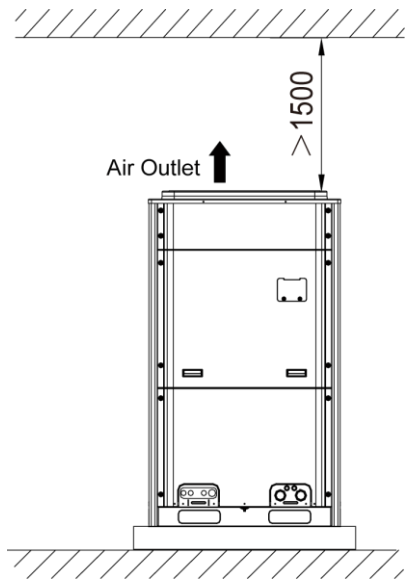
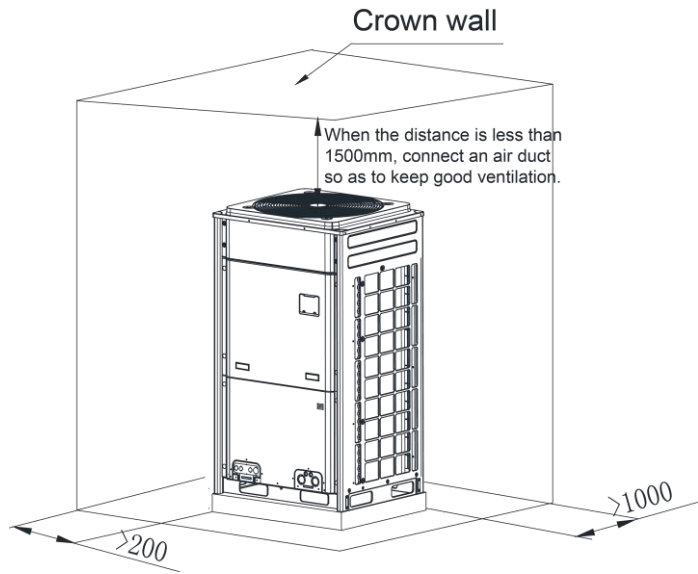

Fig.3.2.5
Fig.3.2.6
3.2.2 When there is wall (or similar obstruction) above the unit, keep the distance between the unit top and the wall at least 3000mm or above. When the unit is located in an open space with no obstruction from front, back, left and right, keep the distance between the unit top and wall at least 1500mm or above (See Fig.3.2.5). When the distance is limited within 1500mm or the unit is not set in an open space, air return pipe is required to be installed in order to keep good ventilation (See Fig.3.2.6).